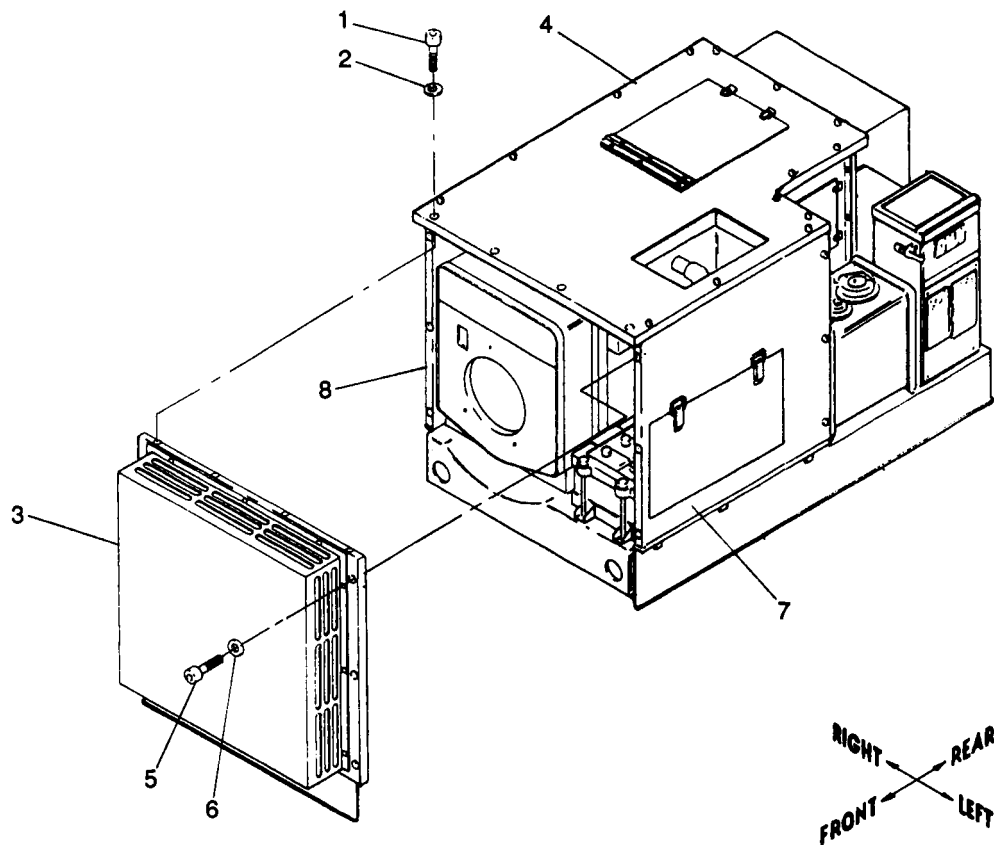

Figure 5-9. Front Panel Assembly, Removal and Installation
a. Removal. See figure 5-9. Remove front panel assembly from top, right and left panel assemblies as follows:
(1) Remove four screws (1) and washers (2) securing the front panel assembly (3) to top panel assembly (4).
(2) Remove six screws (5) and washers (6) securing front panel assembly (3) to left panel assembly (7) and right panel assembly (8).
(3) Remove front panel assembly (3).
b. Installation. See figure 5-9. Install front panel assembly to top, right and left panel assemblies as follows:
(1) Position front panel assembly (3) against left panel assembly (7) and right panel assembly (8) and secure with six screws (5) and washers (6).
(2) Install four screws (1) and washers (2) securing front panel assembly (3) to top panel assembly (4).
(3) Torque screws (5 and 1) to 18 \pm 2 in.-lbs dry.